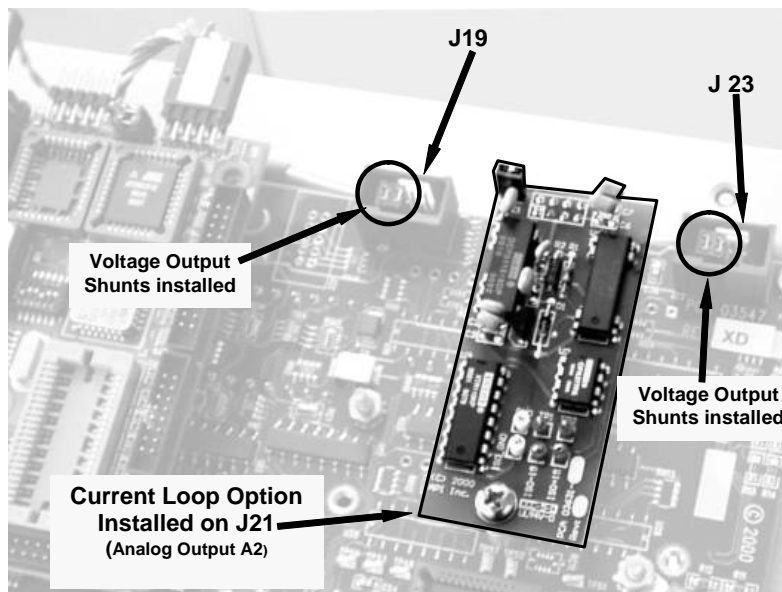

Figure 5-1: Current Loop Option Installed on the Motherboard
7. Disconnect the current loop option PCA from the appropriate connector on the motherboard (see Figure 5-1).
8. Place a shunt between the leftmost two pins of the connector (see Figure 5-1).